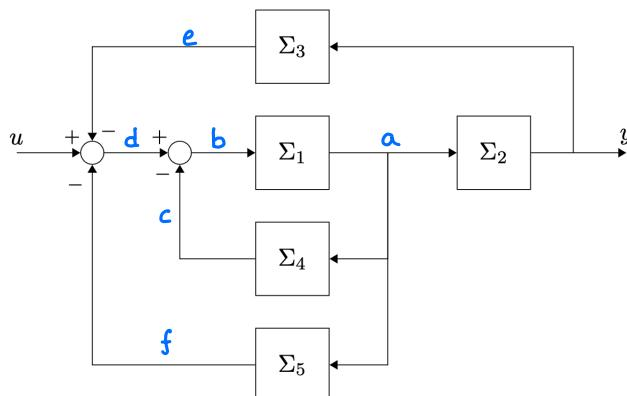

Figure 4: Interconnected system.
**Problem:** Consider the interconnected system shown in Figure 4. You can assume that the input-output relation for each system  $\Sigma_i$  is given by  $y_i = \Sigma_i \cdot u_i$ , that is, each of the systems  $\Sigma_i$  represents a simple scalar gain.
**Q4 (1.5 Points)** Derive the transfer function  $\Sigma$  from  $u$  to  $y$  for the interconnected system shown in Figure 4. Simplify the result as much as possible.